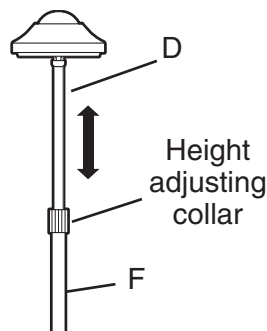

Fig. 5
1. To adjust lamp height – hold upper shaft (F) with one hand, loosen height adjusting collar. Raise or lower lamp arm (D) to desired height. Tighten collar. (Fig. 5)